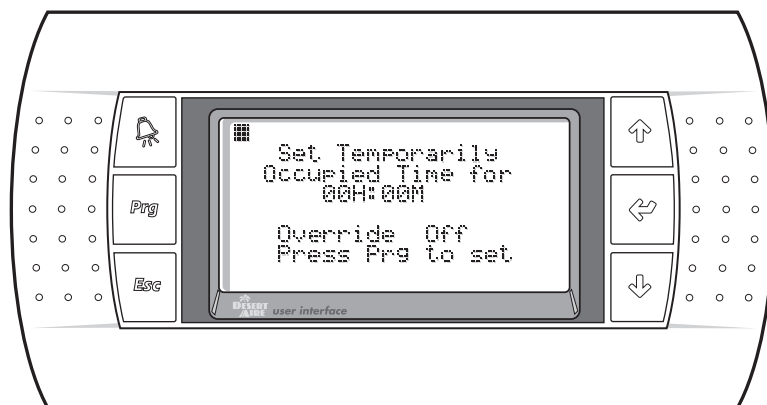

Figure 37
2.5.4. Temporary Occupancy (Figure 37)